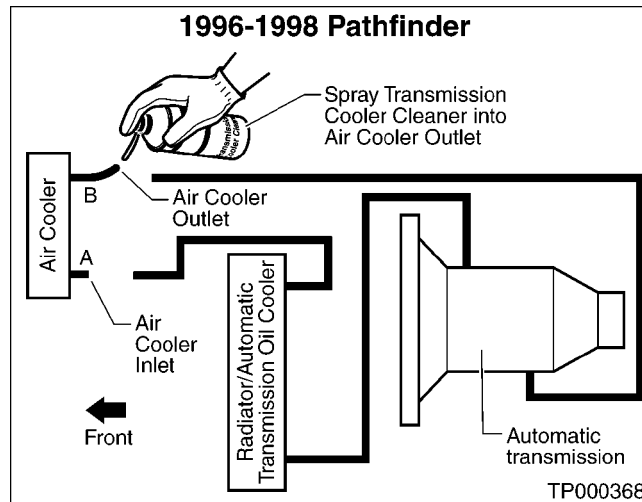

Figure 8
1. Place an oil drain pan under the A/T air cooler Inlet and Outlet hoses (see Points A and B, Figure 8).
2. Disconnect the Inlet and Outlet hoses from the air cooler (see Points A and B, Figure 8).
3. Insert the "extension adapter hose" from a can of Transmission Cooler Cleaner (Nissan P/N 999MP-AM006) into the air cooler Outlet hose (see Point B, Figure 8).
4. Hold the hose and can as high as possible. Spray Transmission Cooler Cleaner in a continuous stream into the air cooler Outlet hose until fluid flows out of the air cooler Inlet hose for 5 seconds (Point A, Figure 8).